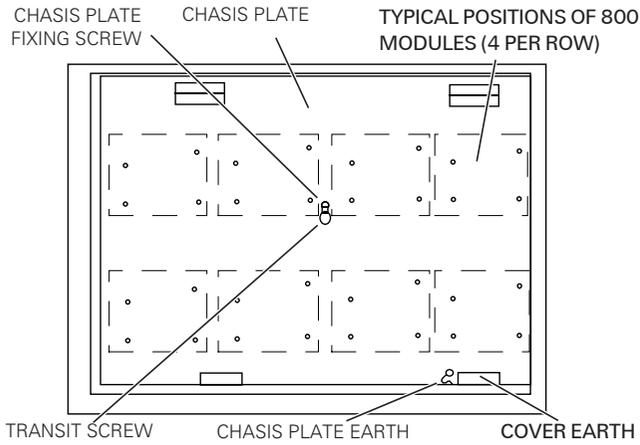

Fig. 3: ANC8 - Chassis plate
- 2 Assemble the chassis plate into the housing and secure using fixing screw, as Fig. 3.
- 3 Connect the chassis plate earth lead to the housing, as Fig. 3.